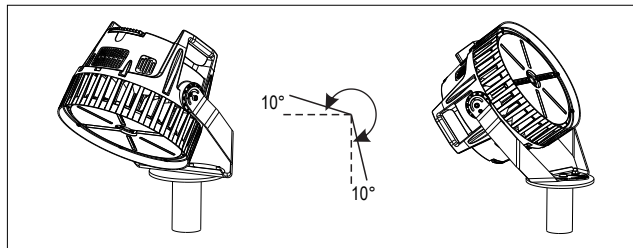

Figure 11
- Adjust the projection angle as needed. The range for angle adjustment is shown in Figure 11.